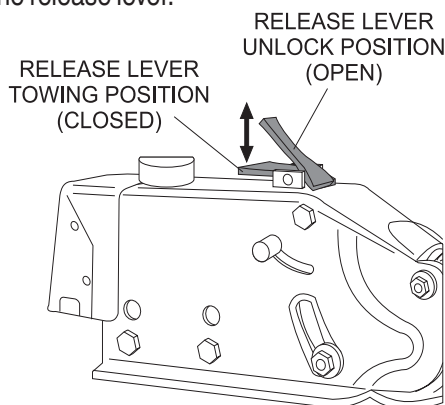

Figure 39. Trailer Hitch Release Lever
2. Hold the release lever in the open position (Figure 39).